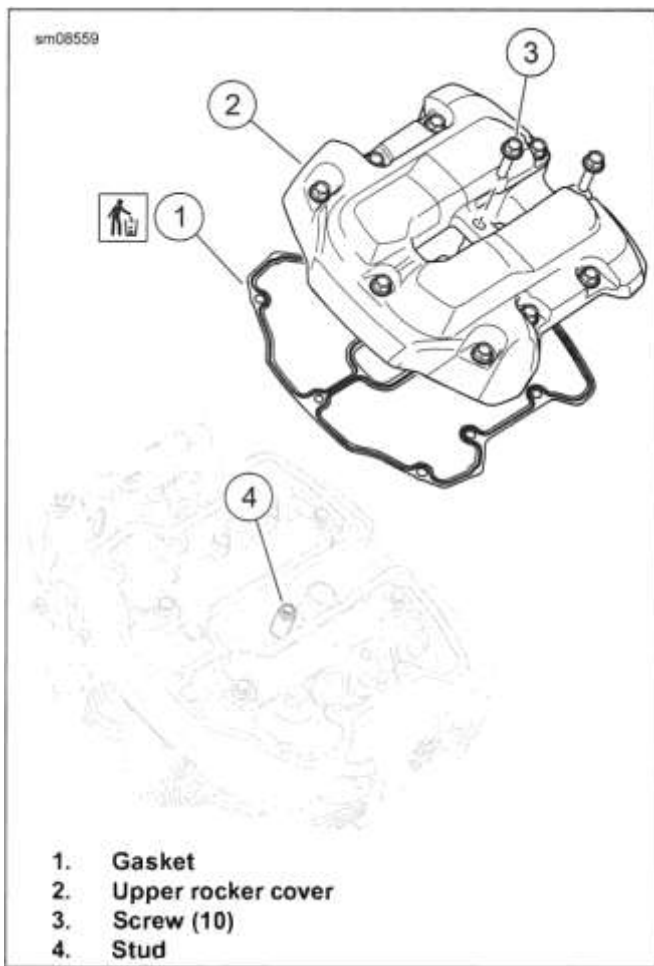

Figure 4-17. Rocker Cover Screws
1. See Figure 4-17. Remove screws (3).
- a. Secure stud (4) while removing center screw.
2. Remove upper rocker cover (2).
3. Discard gasket (1).
1. See Figure 4-17. Tighten stud (4).